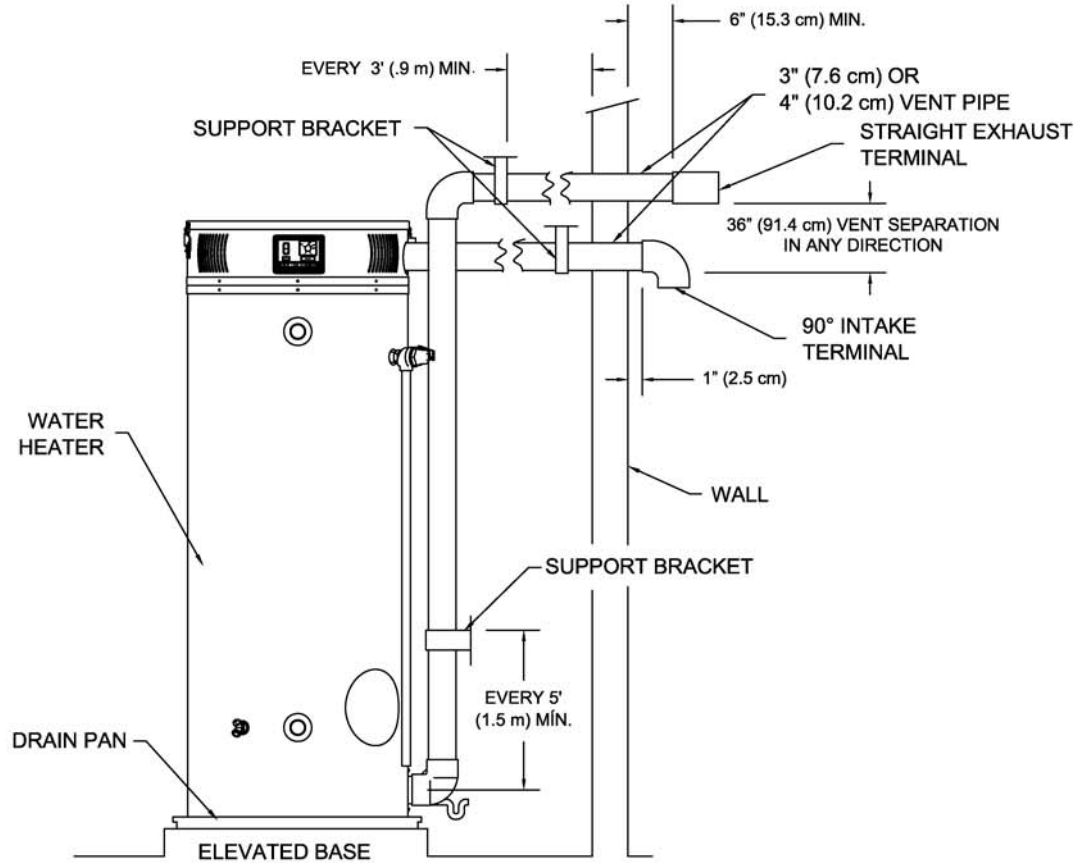

Figure 13. Typical Horizontal Direct Vent System
2. Use the proper cement primers to secure the exhaust vent and air intake terminals provided with the water heater to the vent pipes. The distance between the back edge of the exhaust vent terminal and the exterior wall (see Figure 13) must be 6 inches (*15.2 cm*) more for the exhaust vent terminal than the air intake terminal. Use the proper cement or sealant and assembly procedures to secure the vent connector joints between the terminal and the blower outlet. Provide support brackets for every 3 feet (*.91 m*) of horizontal vent beyond the intake terminal.